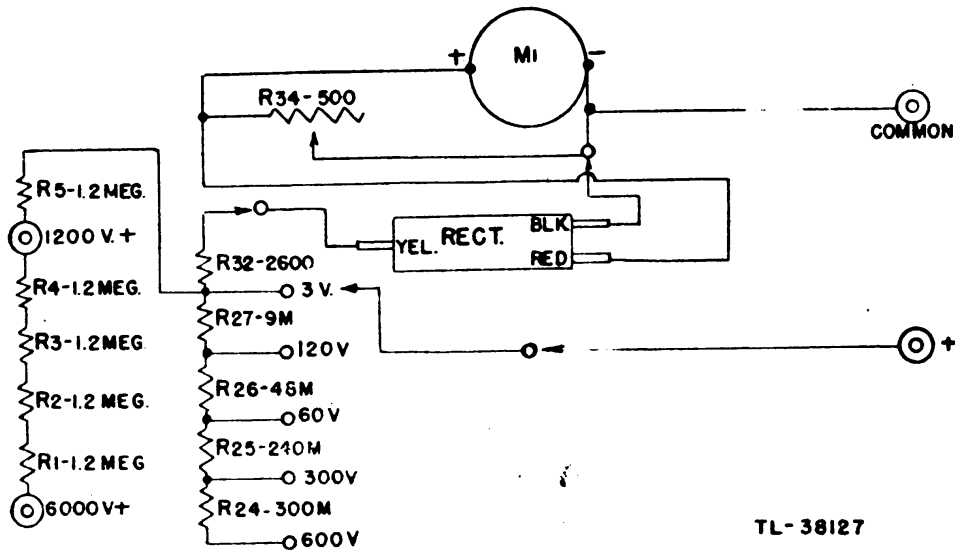

Figure 12. Test Set I-179, simplified A.C. volts circuit.
16. TEST SET I-179 AS AN A-C VOLTMETER (fig. 12).